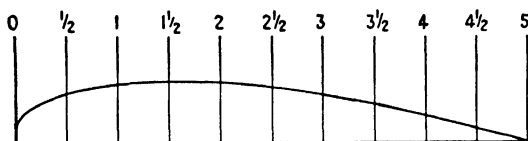

Fig. 178.
Step 5.—Mark all points in a similar manner on the upper camber. Connect them with a smooth line. The finished upper camber is shown in Fig. 178.